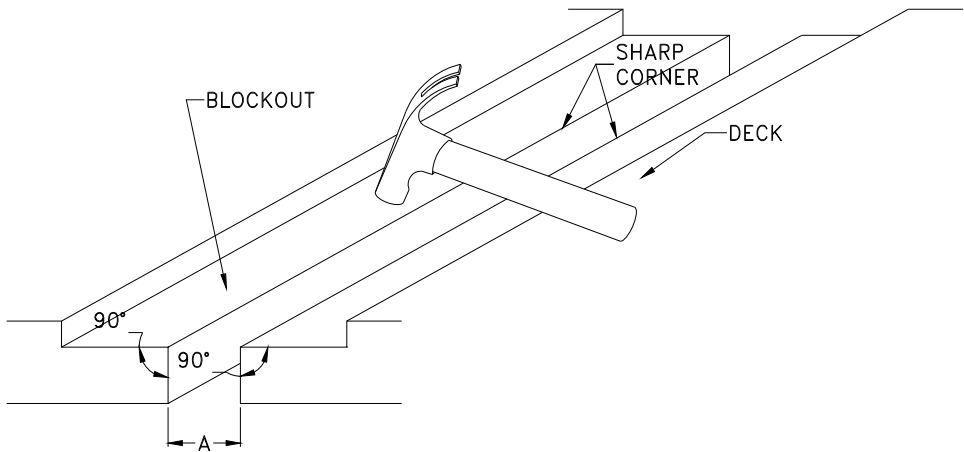

Figure 2
- B. Concrete within the blockout area and adjacent to the expansion joint system must be sound. Confirm by tapping these areas with a hammer (see Figure 2). A hollow sound, or cracking, crumbling or loosening of the concrete, indicates it is unsound and must be removed and repaired with a structural repair mortar. Acceptable repair mortars include; Thoroc 1060, Emaco T-415 and Sika 123. Contact Balco, Inc. for recommendations on other compatible repair mortars.